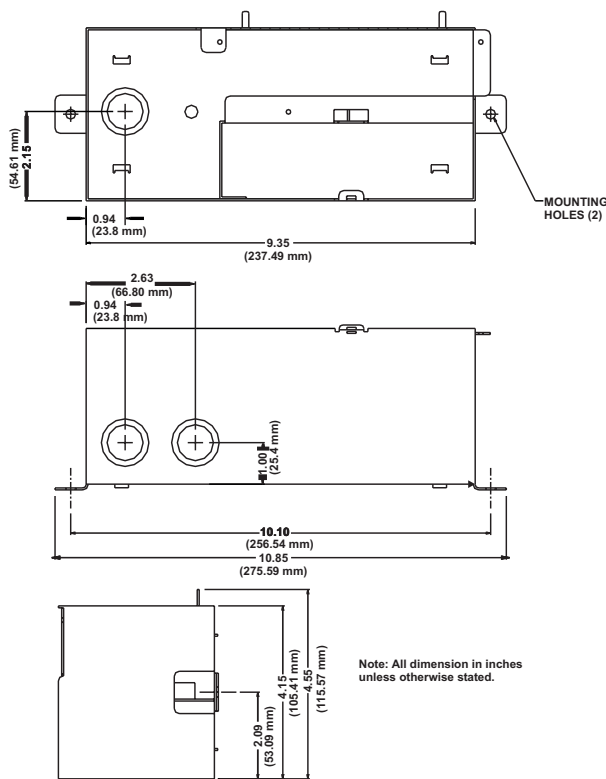

Figure 4-12. Self-Contained Power Supply Back-Box Mounting Details
8. Mark the location of the mounting holes on the wall (see Figure 4-12 for mounting details).